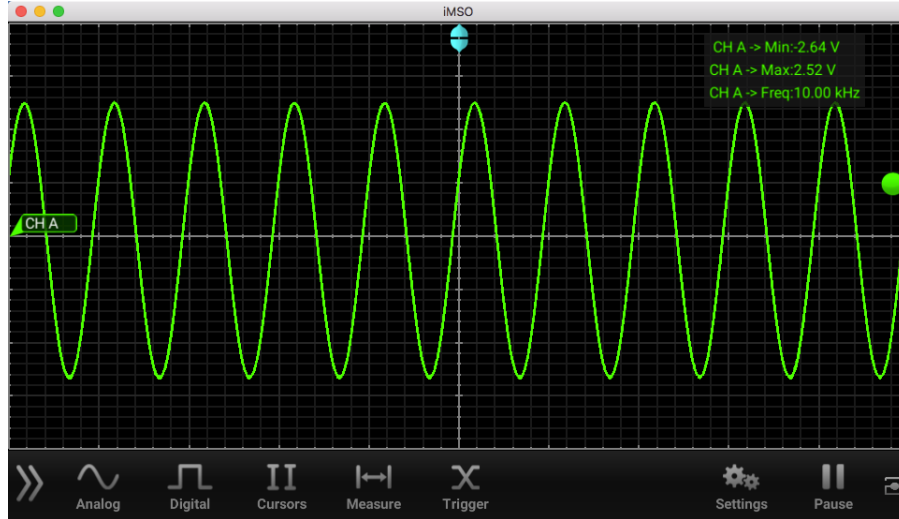

Figure 13: Waveform measurements are displayed in the iMSO software in the upper right hand corner.
4. Measurements appear on the top right of the interface (figure 13).